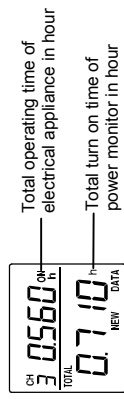

Figure 7
- The total electrical appliance (e.g. television) operating time in hour (LCD displays "ON" ... "h") with total power monitor turn on time in hour (LCD displays "TOTAL" ... "h") (Figure 7).